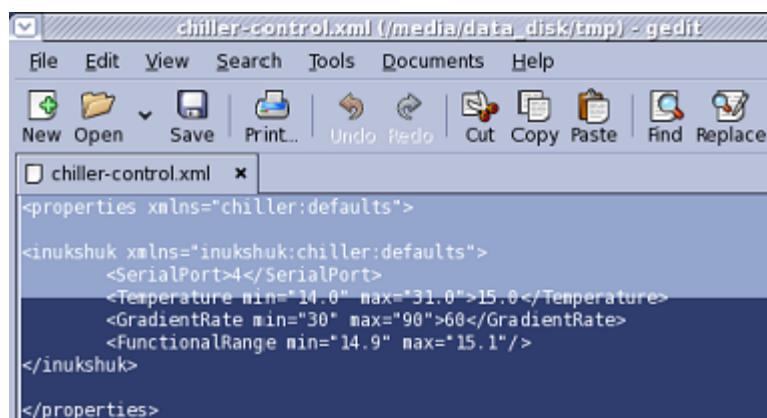

Figure 6-8
8. Select all the text in the settings file and copy it. There are multiple ways you can do this. Either use the Edit -> Select All menu option or type control+A. The text in the editor will be highlighted. Copy the highlighted text by clicking on the "Copy" button on the toolbar (Figure 6-8).